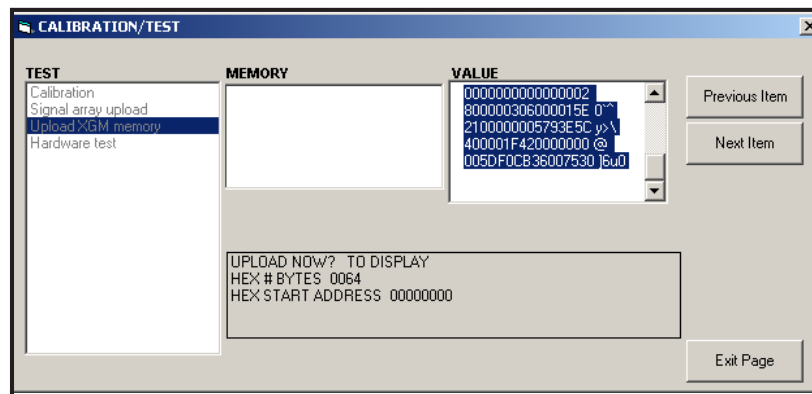

Figure 14: XGM868i Memory Data Displayed on PanaView
- If you double-click on *To Display*, the right pane of the window appears similar to Figure 14, and the data is available for immediate evaluation. Click [Exit Page] to close the window and return to the *Calibration/Test* menu.